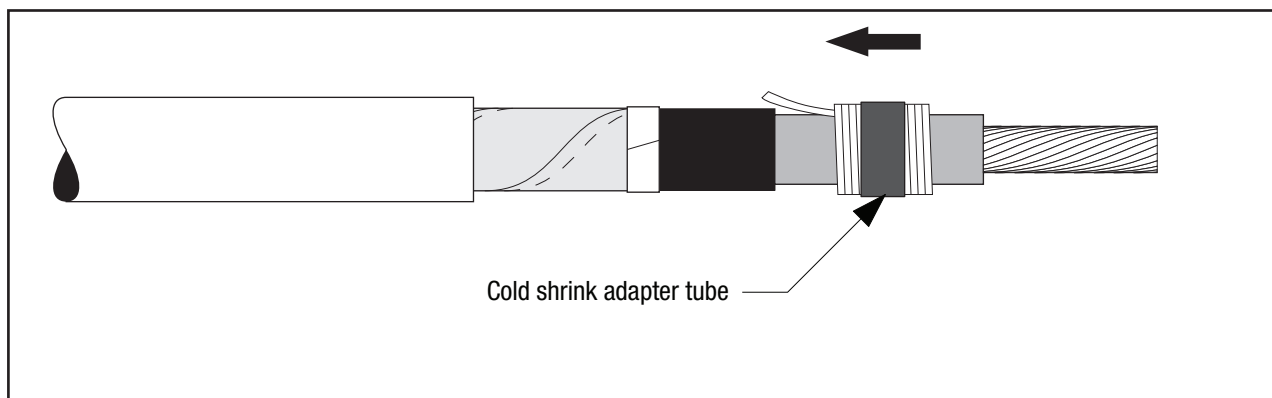

Figure 7
- 3.4 For 500 kcmil copper connectors or connectors with an O.D. between 0.80 - 1.08" (20,3 - 27,4 mm): Park the cold shrink adapter tube on the insulation. (Figure 7)**